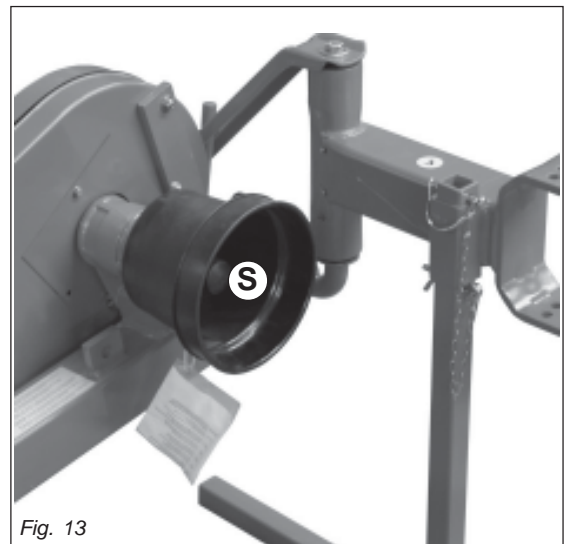

Fig. 13
- After having dismantled the PTO, place the protective cover on the PTO shaft (S, Fig. 13).